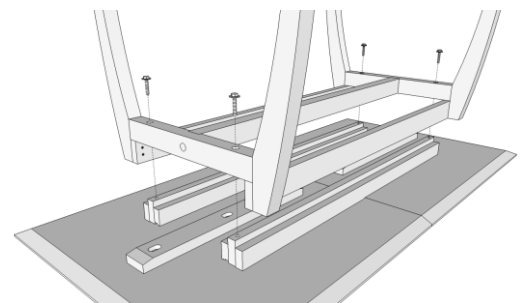

FIGURE 3
- 4) ALIGN THE HOLES IN THE LEG ASSEMBLIES WITH THE PRE-DRILLED HOLES IN THE EXTENSION SLIDES. ATTACH USING THE OTHER 4 - 2" LAG BOLTS. (FIGURE 3)**